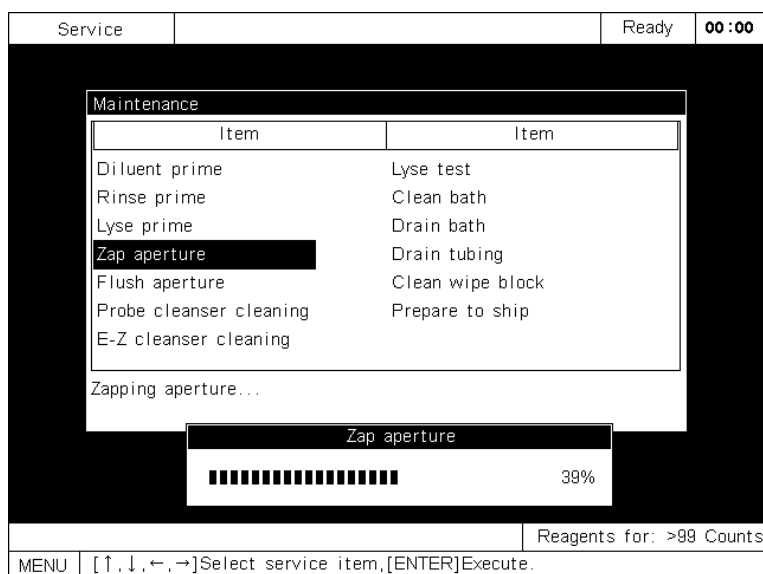

Figure 8-6 Zapping aperture
- Press [ENTER] to zap the aperture and the zapping progress will be displayed at the bottom of the screen, as Figure 8-6 shows.